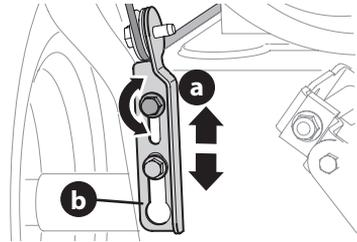

Figure 54
- Allow auger to remain engaged for approximately ten (10) seconds before releasing auger control lever. Repeat this several times.
- To readjust the auger control cable, loosen upper hex screw (a) (Figure 54).
- Position auger control bracket (b) upward to provide more slack in cable or downward to increase tension (Figure 54).